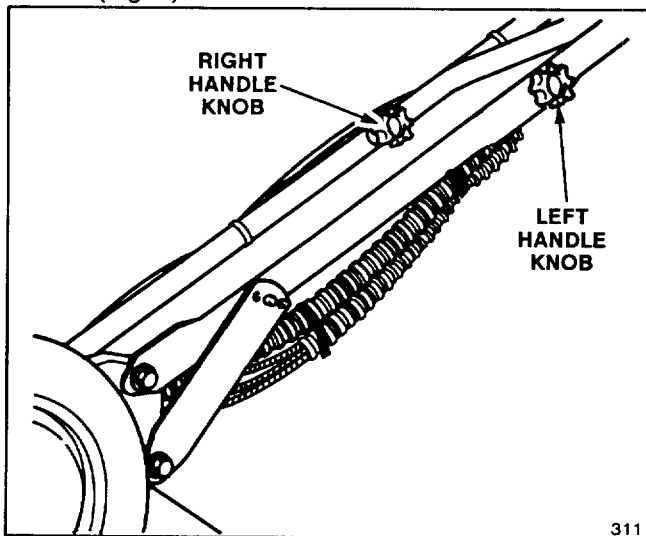
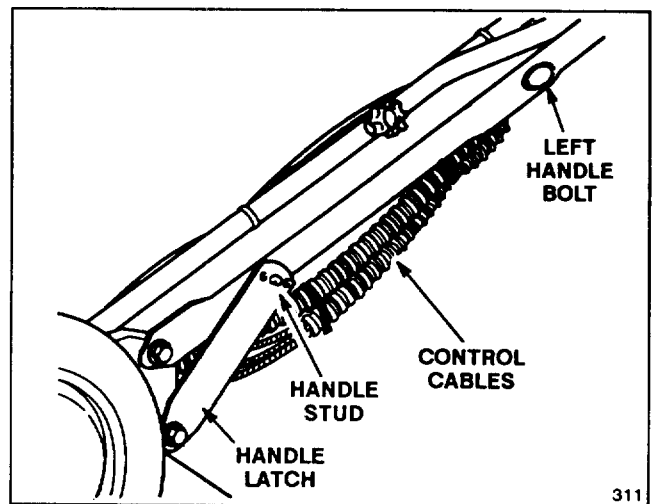

Figure 1
Figure 2
INSTALL HANDLE (Fig. 1 & 2)
1. The left handle knob is shipped from the factory on the outside of the handle (Fig. 1). Remove the left knob and bolt. Reinstall knob and bolt on inside of handle (Fig. 2).
2. Align handle and tighten handle knobs. Move handle latches slightly outward so they will not be in the way when pivoting the handle backward into the operating position (Fig. 2).
4. Ensure control cables (Fig. 2) are to the rear and inside of handles. If handle height is not satisfactory, adjust by placing handle stud (Fig. 2) into a different hole. Tighten handle knobs.